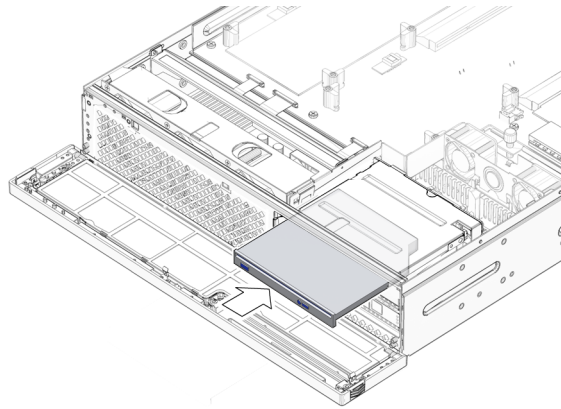

FIGURE 3-9 Inserting the Optical Media Drive
2. **Hold the tab to the left and insert the optical media drive into the mass storage assembly (FIGURE 3-9).**